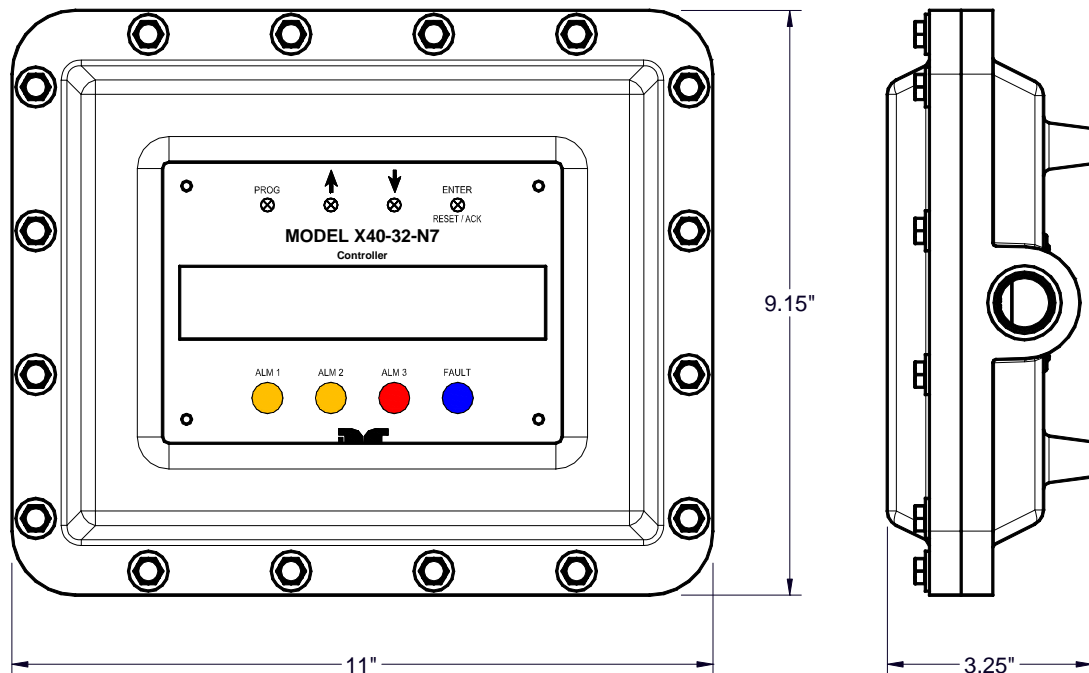

Figure 18 N7 Controller Mounting and Dimensional View
1. Securely mount the X40-32-N7 controller in accordance with the mounting dimensions provided in Figure 18.